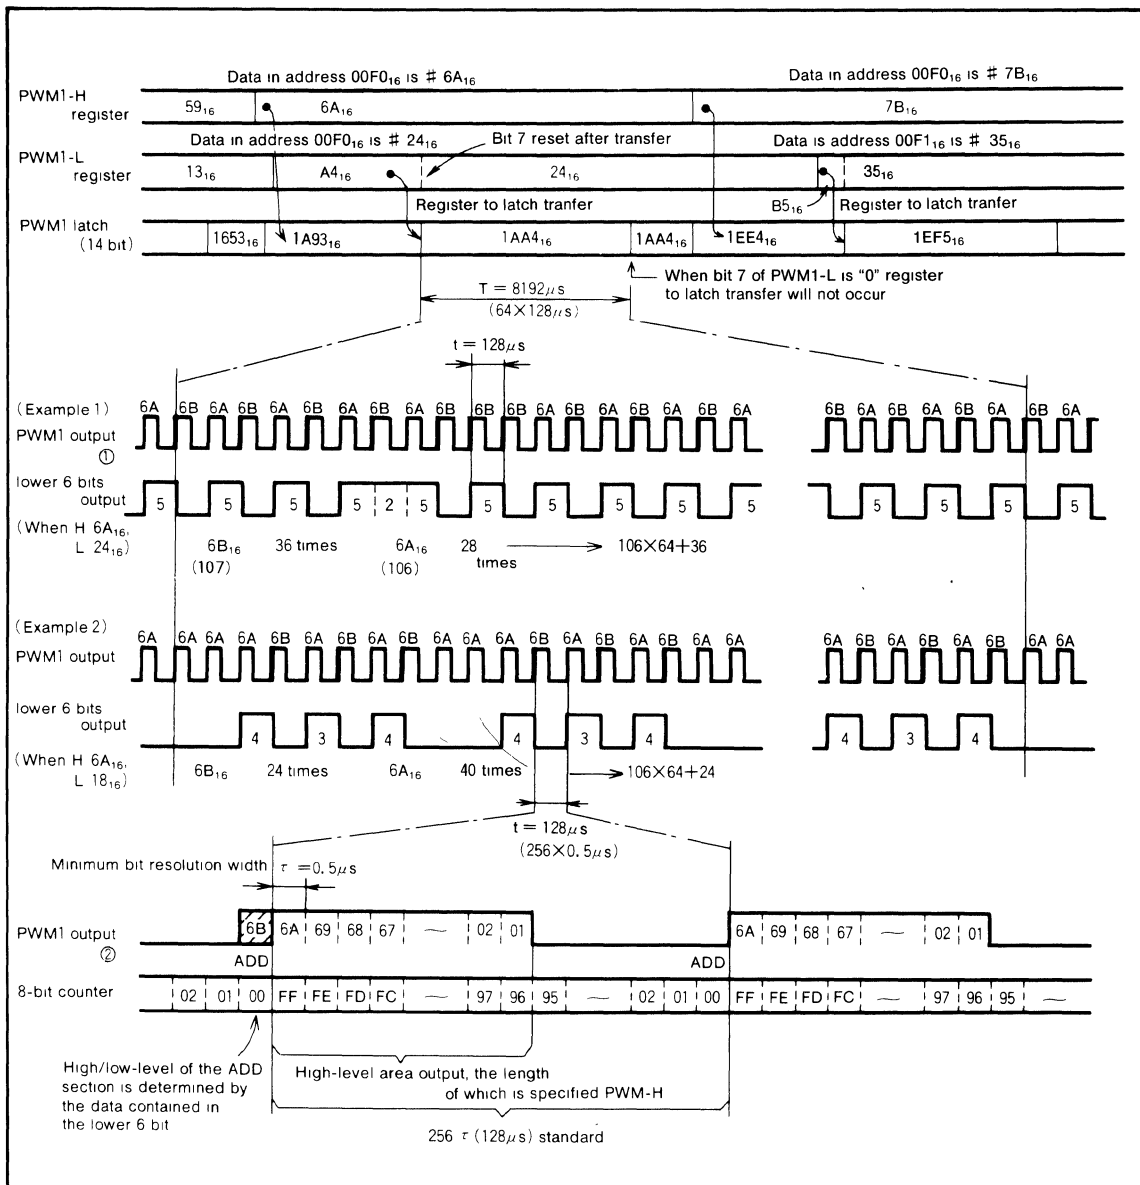

Fig.11 14-bit PWM timing diagram
The timing diagram of the 14-bit PWM1 is shown in Figure 11. The 14-bit PWM divides the data within the PWM latch into the lower 6 bits and higher 8 bits.
A high-level area within a length N times τ is output every short area of $t=256 \times \tau = 128\mu\text{s}$ as determined by data N of the higher 8 bits. (Refer to PWM output ② in the lower part of Figure 11.)